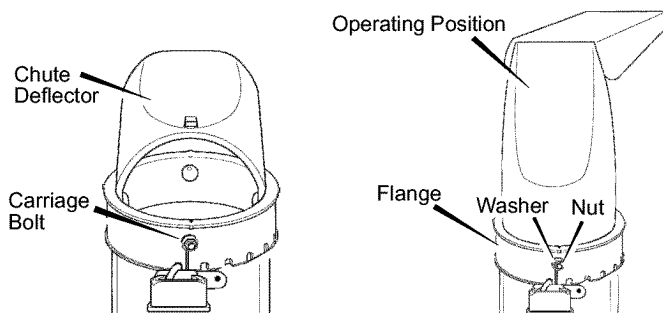

Figure 10
1. Remove the **carriage bolt**. See Figure 10.